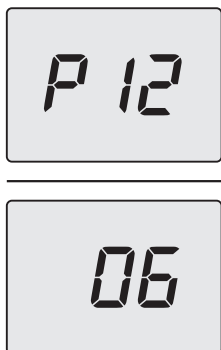

Figure 5.68
- Scroll through the various parameters by pressing the keys 12 (back) or 14 (forward), until **P12**, which alternates with the parameter value, appears on the LCD display (Figure 5.68).